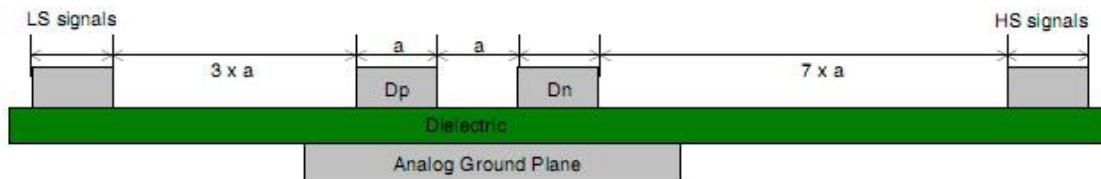

Figure 4-23 USB Layout
- The USB traces at least need to be maintained a clearance of 3W with other signals. Shown as Figure 4-23.